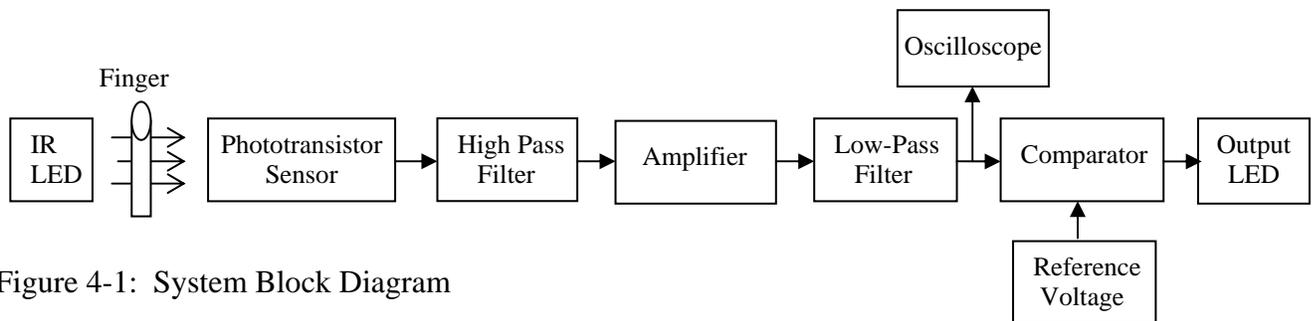

Figure 4-1: System Block Diagram
Figure 4-1 shows the *Block Diagram* of the Heartbeat Monitor. The system consists of an infrared (IR) LED, a phototransistor sensor, both high and low-pass filters, as well as an amplifier, comparator and output LED. An oscilloscope is included to display the signal.